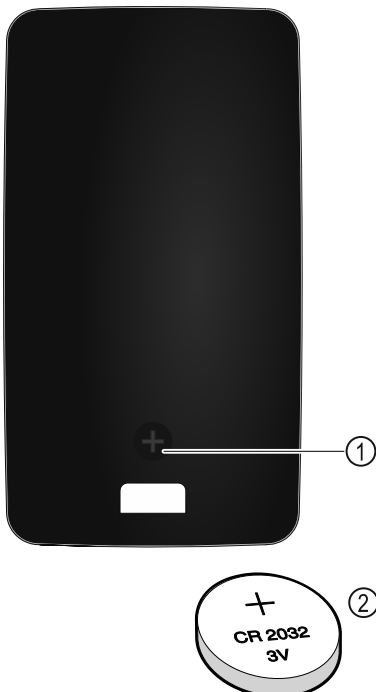

Fig. 229
The remote control is powered by a 3V CR 2032 battery Fig. 229 (2) available from specialist retailers.
- Undo screw Fig. 229 (1) on the back of the remote control.